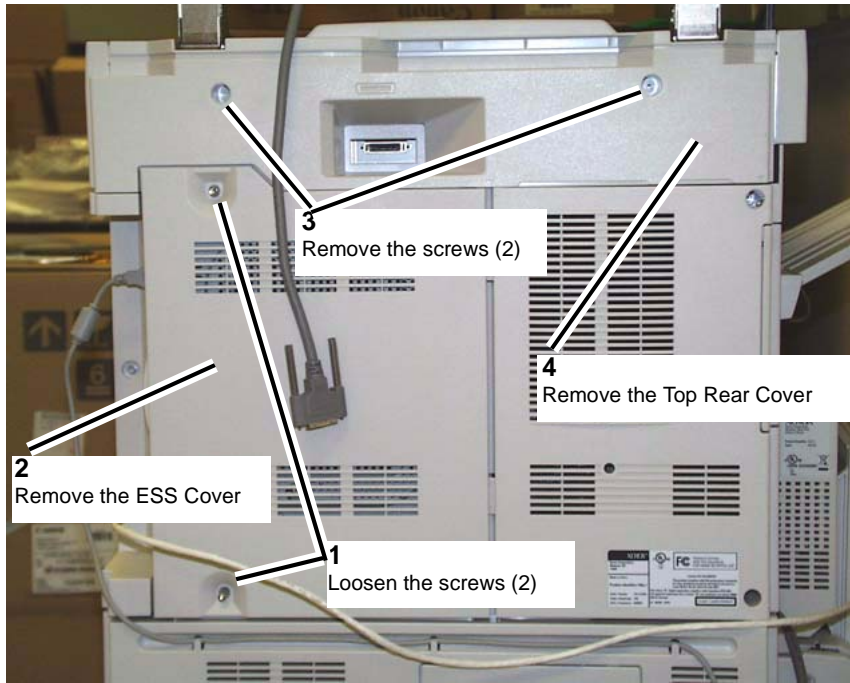

Figure 2 Removing the ESS Cover and the Top Rear Cover
4. Remove the ESS PWB cover and the Top Rear Cover. (Figure 2)